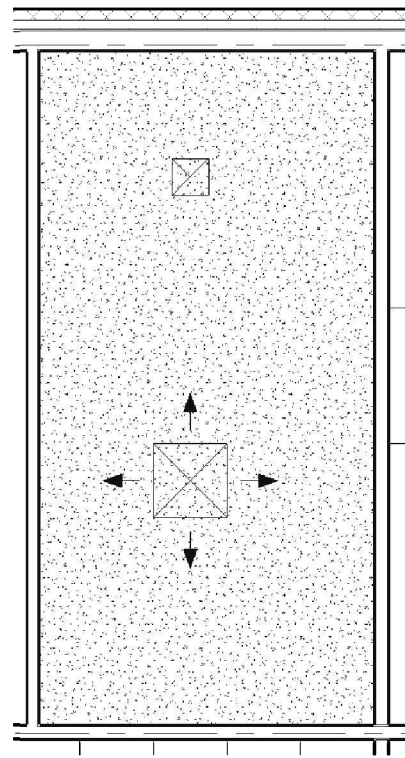

FIGURE 13-3.9 Exhaust diffuser properties
26. **Uncheck** each of the four "arrow" options (Figure 13-3.9).